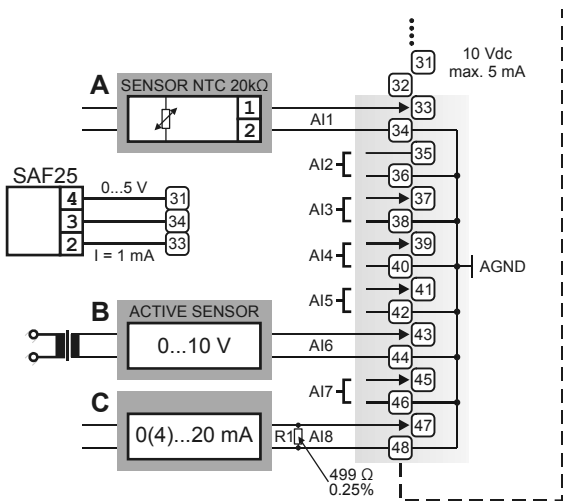

Fig. 21. Analog inputs, sensor connections
0 (4)...20 mA (with an external resistor of 499 Ω ±0.25% [see Fig. 21])